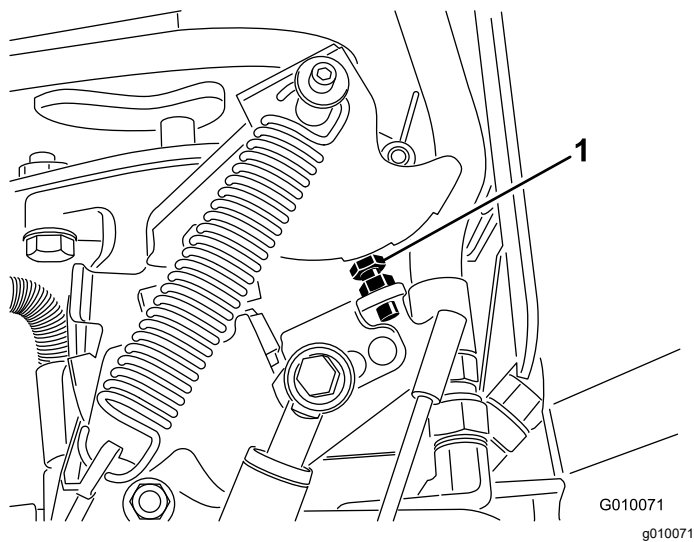

Figure 71
6. If an adjustment is needed, turn the pump stop bolt (Figure 71) closer to the stop plate to decrease hole spacing or turn the stop bolt away from the stop plate to increase hole spacing.